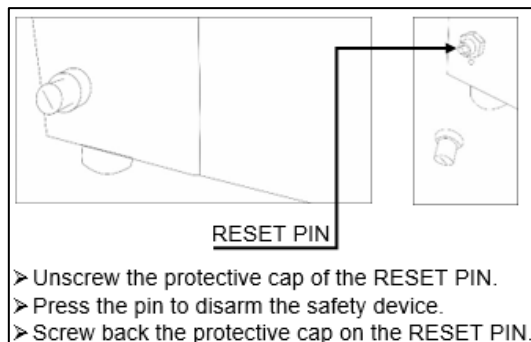

Fig.4
- Never put yourself in a position where your face is exposed to burns caused by hot water vapours from the tank. Use the correct posture (Fig. 4) when immersing and removing the food containers into the water,
- Follow instructions of the Fig. 4 to reset the appliance.